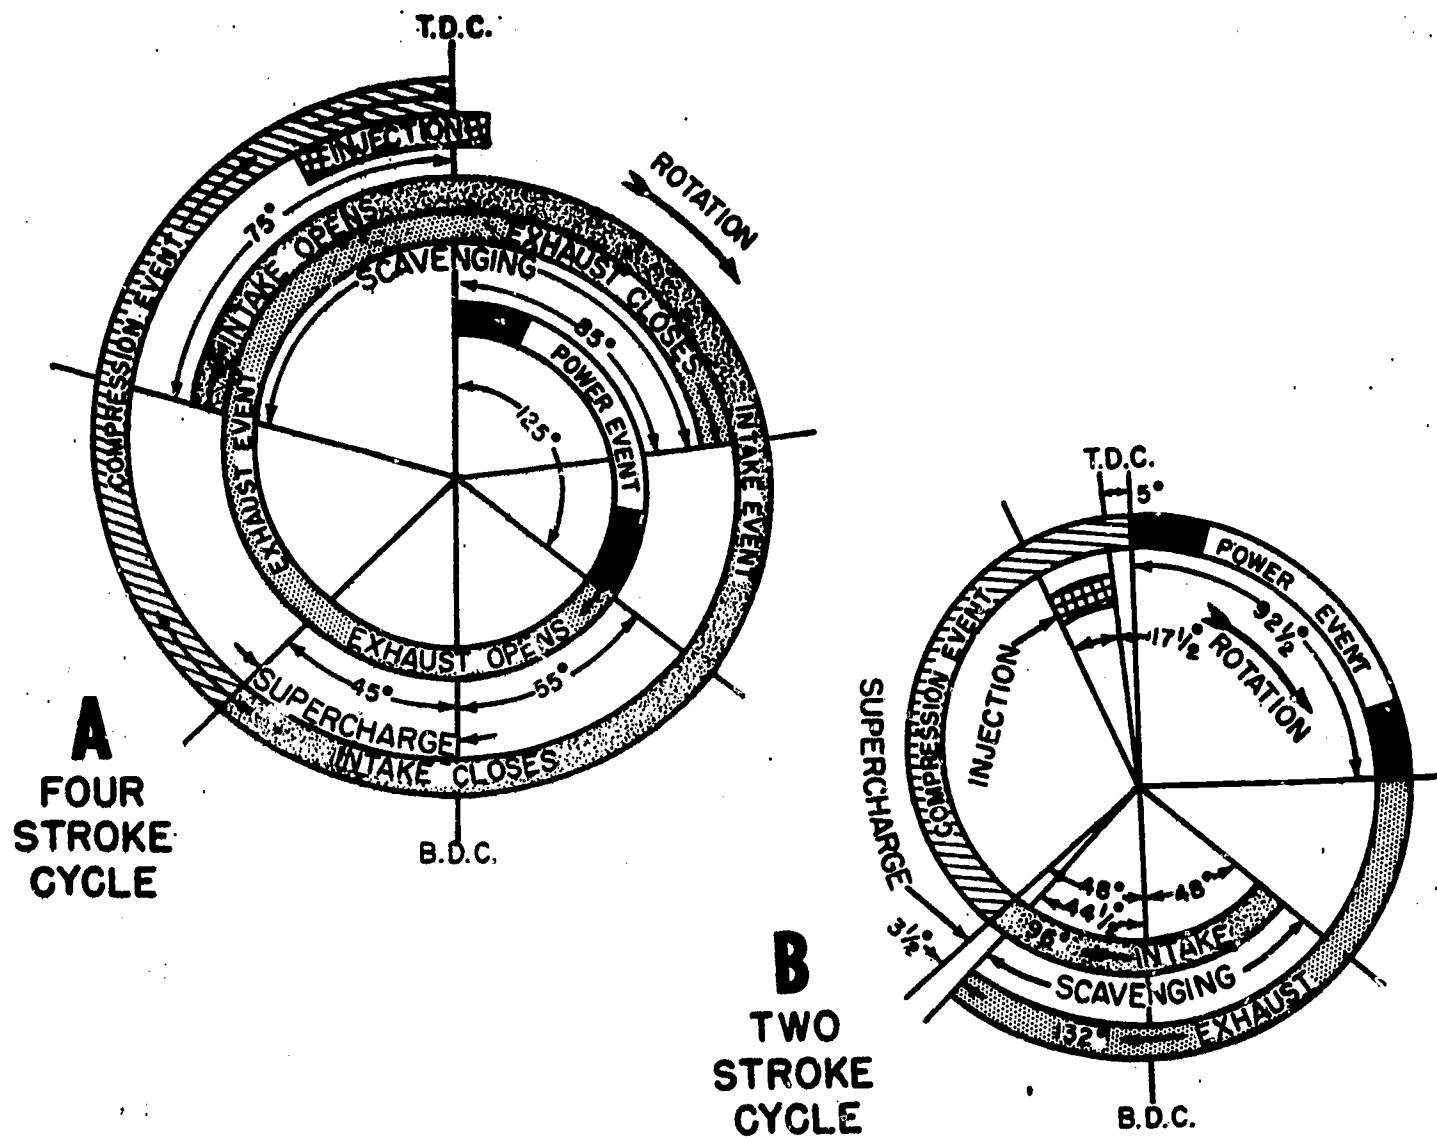

Fig. 3 Four cycle scavenging and supercharging.
**FOUR STROKE SCAVENGING AND SUPERCHARGING -- Figure 3 shows graphically how the opening and closing of intake and exhaust valves affect both scavenging and supercharging and the differences in these processes as they occur in supercharged 4 cycle engines.**
In Figure 3, remember the crankshaft makes two complete revolutions in one cycle of operation.
In analyzing the diagram in Figure 3, at TDC (top dead center) peak compression has been reached, fuel injection is nearly complete, and combustion is in process. Power is delivered during the downstroke